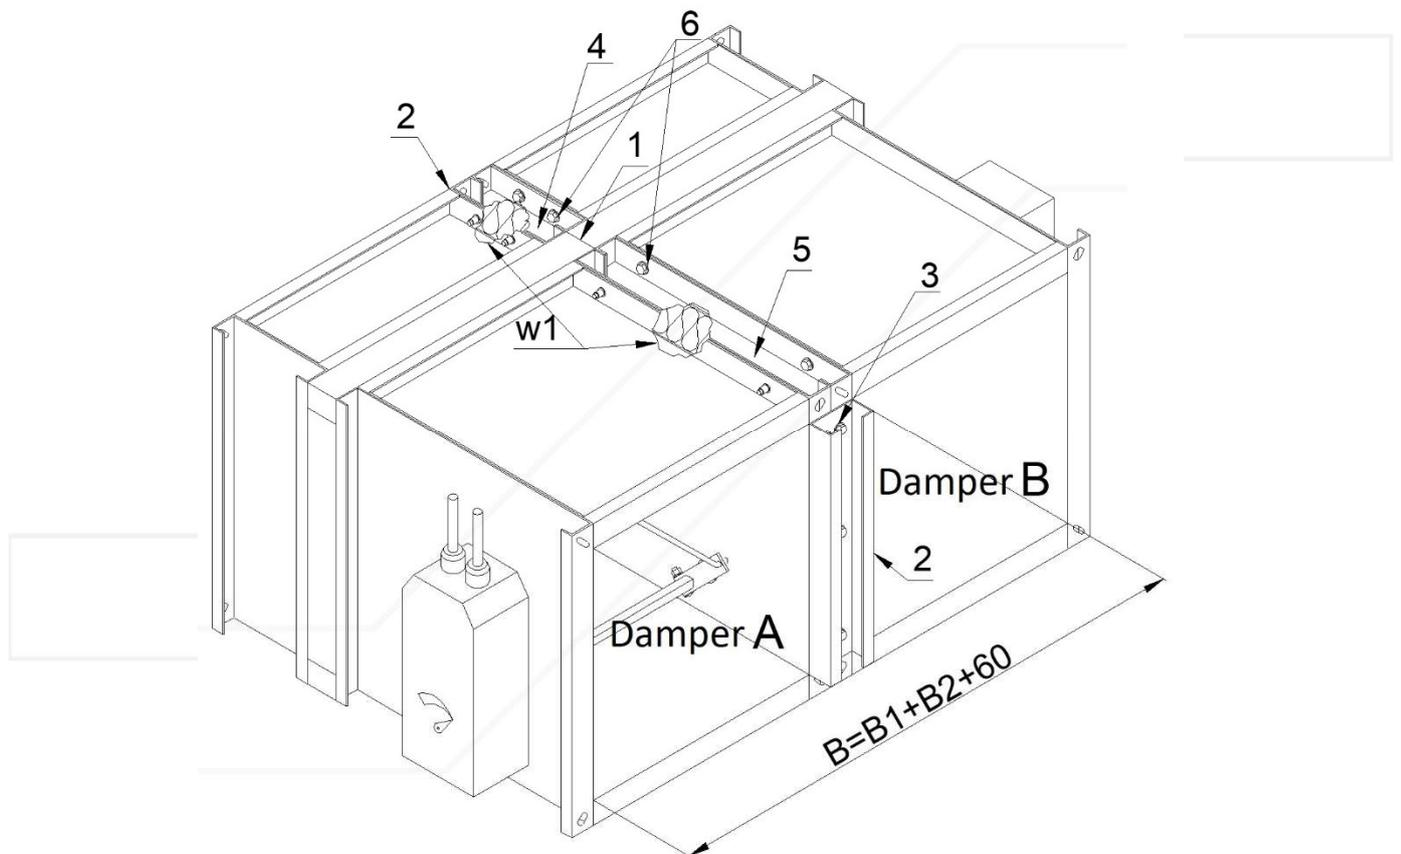

Figure 14. Arrangement 3 – horizontal battery consisting of two fire dampers KWP
**Arrangement 3** - horizontal battery consisting of two fire dampers KWP (Figure 14)
- a. Fix the gasket on insulating spacer of one of adjoining fire dampers (position (1) in the Figure 14).
- b. Set together the sides of fire damper A and the fire damper B (where the gasket was fixed) and assemble them together on the front and back with use of perforated assembly strips (2) and self-tapping screws M6x10 (3), which should be tightened into the openings in fire damper body. In order to carry out the correct assembly, 4 self-tapping screws should be used per each assembly strip with length of 1200 [mm].
- d. The place of sealing the top of the fire damper with mineral wool should be sealed with aluminum tape (4).